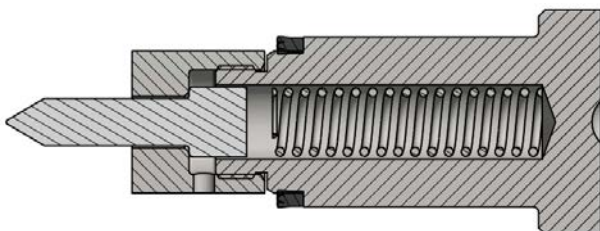

Figure 2 – Piston Assembly
- 7.6 Slide the cup seal (71001871) onto the piston (20237) and make sure to orient the seal correctly with the wide end towards the pin, see Figure 2.